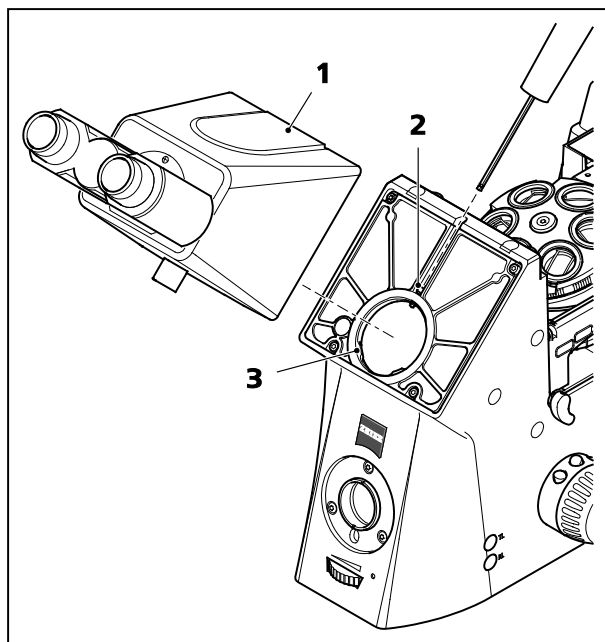

Fig. 14 Attaching the binocular tube
- Loosen Allen screw (Fig. 14/2) using the 3 mm ball-headed screwdriver. When changing the binocular tube, hold the tube firmly during unscrewing and remove it forwards.
- Insert the binocular tube (Fig. 14/1) with the dovetail ring into the tube mount (Fig. 14/3) on the stand, align it with the stand and tighten the Allen screw (Fig. 14/2) using the ball-headed screwdriver.